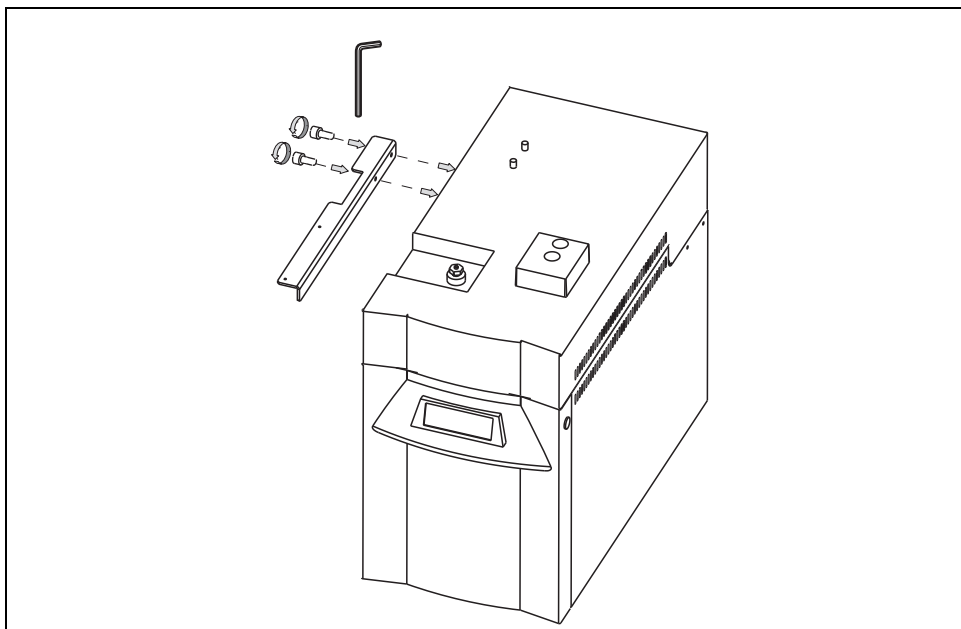

Figure 4-14. Spacer Plate Installation on the Second Agilent 6850 GC
6. Mount the spacer plate on the left side of the second GC unit as shown in Figure 4-14.